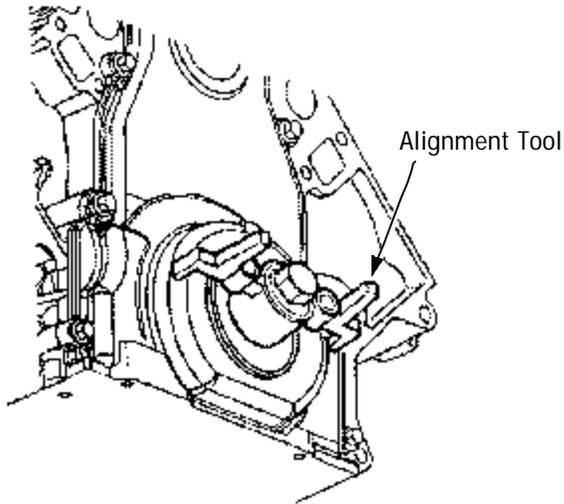

Figure 2 - Front Cover Alignment Tool
9. Install the front cover, using a new gasket if needed. Install front cover bolts hand tight ONLY. Use front/rear cover alignment tool J-41476 and align the tapered legs of the tool with the machined alignment surfaces on the front cover (*See Fig. 2*). Install the crankshaft balancer bolt and tighten by hand until snug. Tighten the front cover bolts to 18 ft./lbs. Make sure the bottom of the front cover is flush with the oil pan gasket surface.